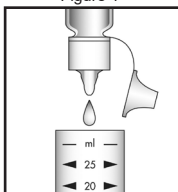

Figure 2
2. Add 5 drops of S-9600 Neutralizer Solution (fig. 2). Stir to mix the contents of the cup. Wait **30 seconds**.